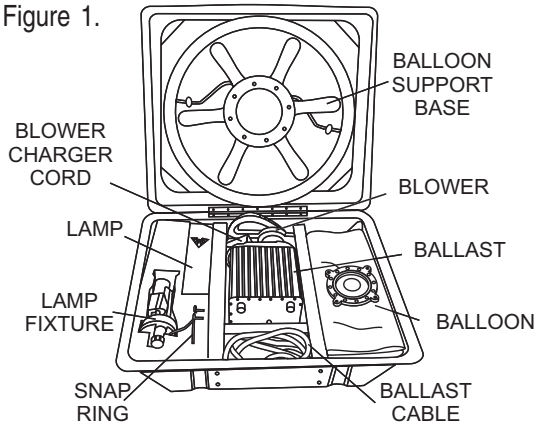

Figure 1. MB1000 Components
1. Open the case that contains the different parts of the MB1000. Make sure you have all the items shown in Figure 1.